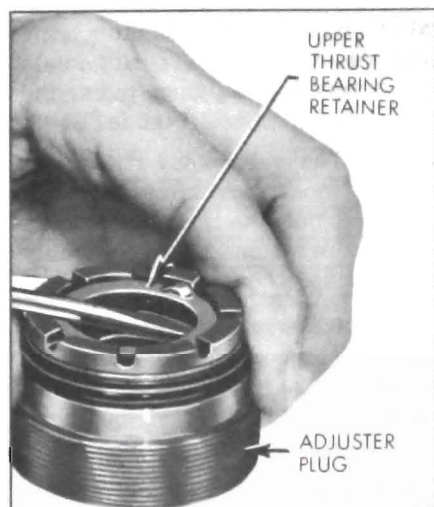

Figure 8-35—Removing Upper Thrust Bearing Retainer
1. Remove the upper thrust bearing retainer with a screwdriver, being careful not to damage the needle bearing bore. See Figure 8-35. Discard retainer. Remove thrust bearing spacer, upper thrust bearing and thrust bearing races.